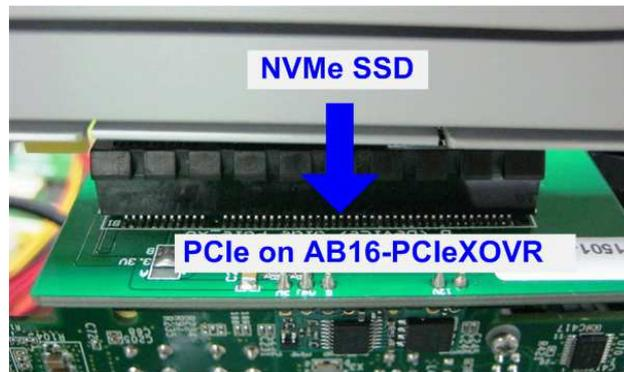

Figure 2-5 Connect NVMe SSD to AB16
- 5) Connect NVMe SSD to B Side of PCIe connector on AB16-PCIeXOVR board, as shown in Figure 2-5.